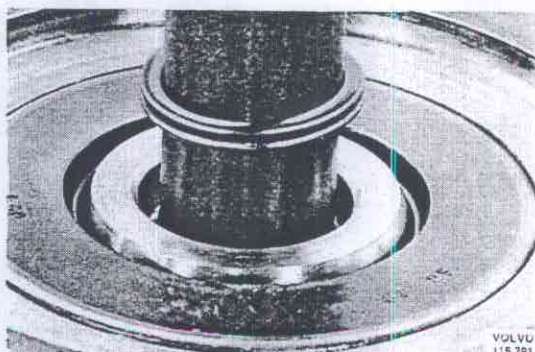

Fig. 46-129. Installing the X-ring
6. Replace the circlip and X-ring on the drive shaft. Grease the circlip and splines. Fit the shaft in the gear wheel and drive it down so that the circlip grips the gear wheel. Grease the X-ring, Fig. 46-129, and press it down into the wear ring.